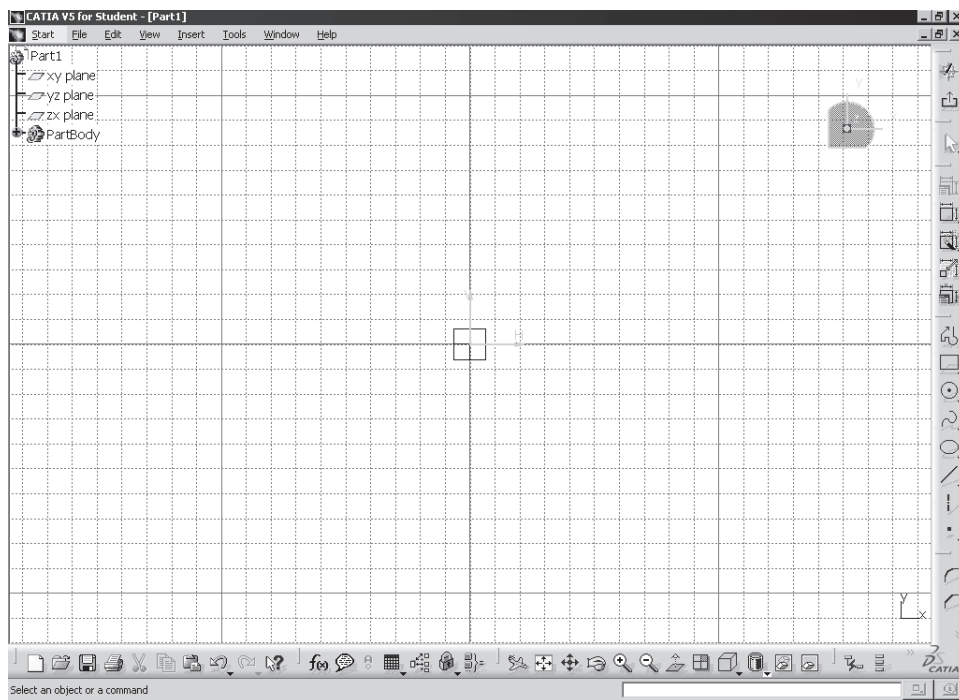

Figure 1-35 The **Sketcher** workbench screen
4. To invoke the **Sketcher** workbench, choose the **Sketcher** button from the **Sketcher** toolbar and then select the YZ plane as the sketching plane. The displayed screen is shown in Figure 1-35.